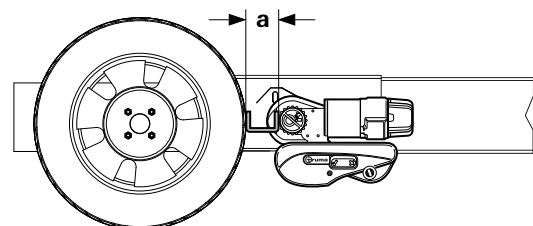

Fig. 37
- ▶ Set the correct distance (Fig. 37-a) between the tyres and drive roller using the spacer plate supplied by moving the drive units lengthways. The movable connection pipe makes it possible to adjust to the frame width. The weight of the caravan must be resting on the wheels when doing this.